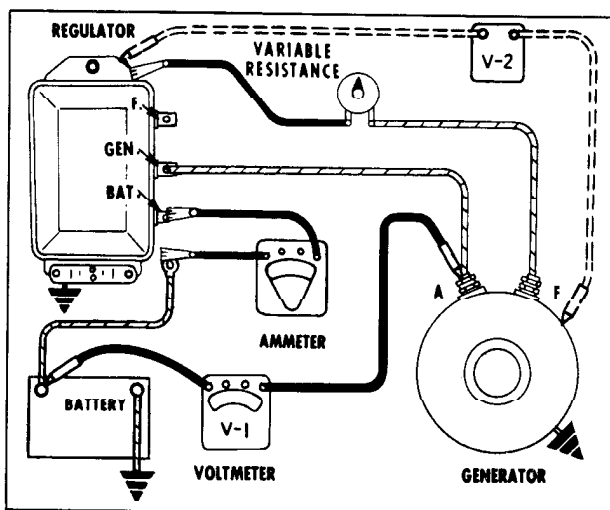

Fig. 13-10 Testing Voltage Drop (40 Ampere)
6. Measure the voltage drop at V-1 as shown in Fig. 13-10, then subtract the reading at the ammeter from the V-1 reading to give the actual drop of the wiring in this part of the charging circuit. Reading should not exceed 0.6 volts.
7. Measure the voltage drop at V-2 as shown in Fig. 13-10. If this reading is more than 0.2 volts, excessive resistance is indicated in this portion of the circuit and can be due to a